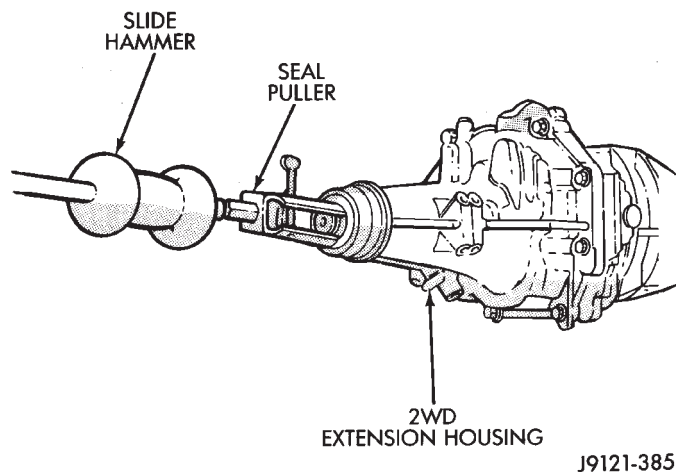

Fig. 13 Remove Extension Housing Seal
- (1) Raise and support vehicle.
- (2) Remove propeller shaft. Refer to Group 3, Differential and Driveline, for proper procedures.
- (3) Using a suitable seal puller or screw with a slide hammer, remove the extension housing seal (Fig. 13).